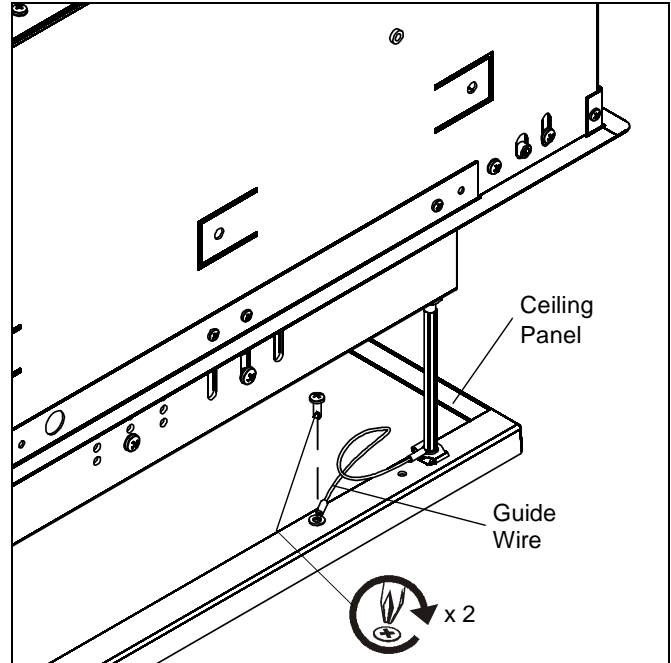

Figure 15
3. Reattach guide wires (two places) to ceiling panel, using screws removed earlier. (See Figure 15)